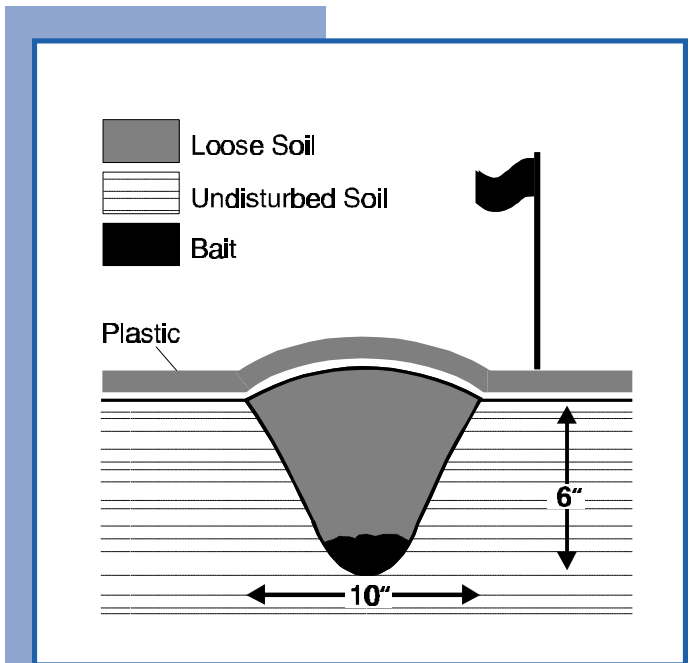

Figure 5
**Baiting:** In the fall, bury 1 to 2 cups of a 1:1 mixture of corn and wheat to a depth of 4 to 6 inches (Figure 5). Presoaking the whole grain bait one day prior to baiting increases the bait’s attractiveness to wireworms by promoting seed germination and release of CO2. Mound the soil over the top in a dome shape so rainwater runs off. Cover the mound with a piece of black plastic (3 square feet) to promote warming of the soil. Mark the site with a surveyor’s flag. Soils must be moist and at least 45 F. There should be about one baiting site for each acre. Distribute traps randomly through the field. However, consider field history and other conditions that may influence the presence of wireworms, placing more traps in high risk locations. Dig up baits and